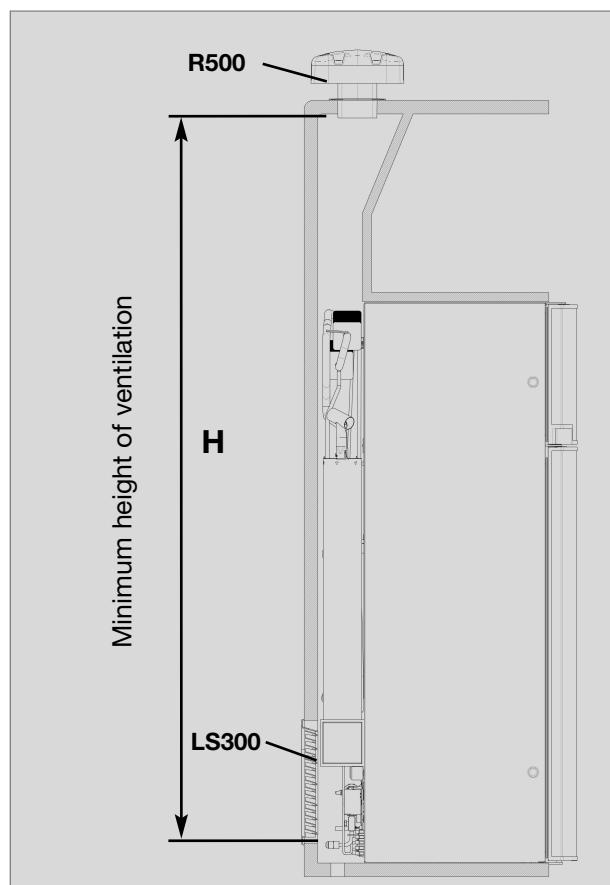
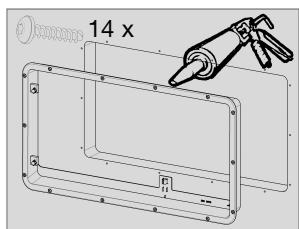

Fig. 13
Fig. 16
Ventilation is provided for the unit by means of two apertures in the caravan wall. Fresh air enters at the bottom, extracts the heat and exits through the upper vent grille (chimney effect). **The upper ventilation grille should be positioned as high as possible above the condenser (Fig. 13) . Install the lower ventilation grille at floor level of the vehicle (Fig. 16), allowing unburnt gas (heavier than air) to escape directly into the open air. The gas burner must be located above the edge (1) .**